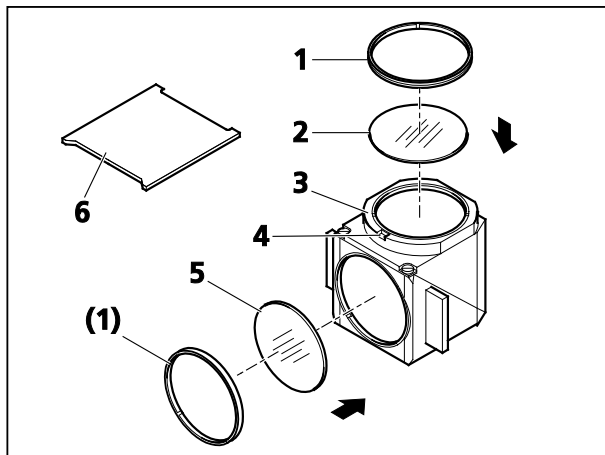

Fig. 20 Changing the filter set in reflector module FL P&C
- Remove reflector module FL P&C (Fig. 20/3) from the reflector turret and place it on a surface (refer to Section 3.11).
- Use mounting plate (Fig. 20/6) from the tool kit to unscrew retaining ring (Fig. 20/1).
- Turn the reflector module and let the filter (Fig. 20/2 or 5) drop out onto a soft surface.
- Insert the barrier filter (emission filter) at (Fig. 20/2), the exciter filter at (Fig. 20/5). Secure both filters by means of retaining rings (Fig. 20/1).
The barrier filter and exciter filter may have a designation and an arrow on their circumference. The arrow indicates the direction in which the particular filter is to be installed in the reflector module; it must always point inwards (refer to arrows in Fig. 20).
This label should be aligned to the orientation groove (Fig. 20/4) when you insert the barrier filter in the reflector module. This is to ensure that the wedge angle of the barrier filters is in the same defined position in the reflector modules, thus compensating or minimizing the already minimal module-to-module image shift when ZEISS filter sets are used.